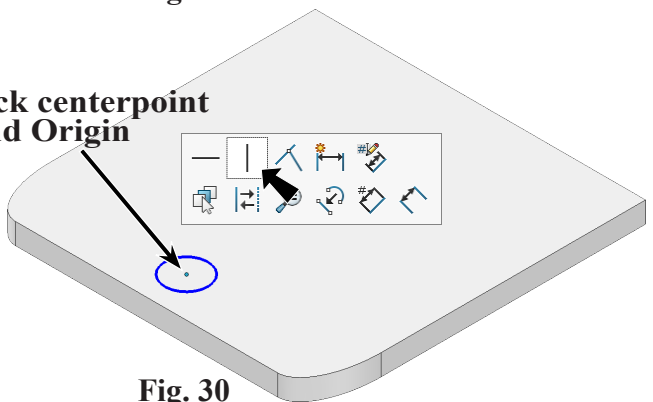

Fig. 30
**Vertical** on the context toolbar, Fig. 30.